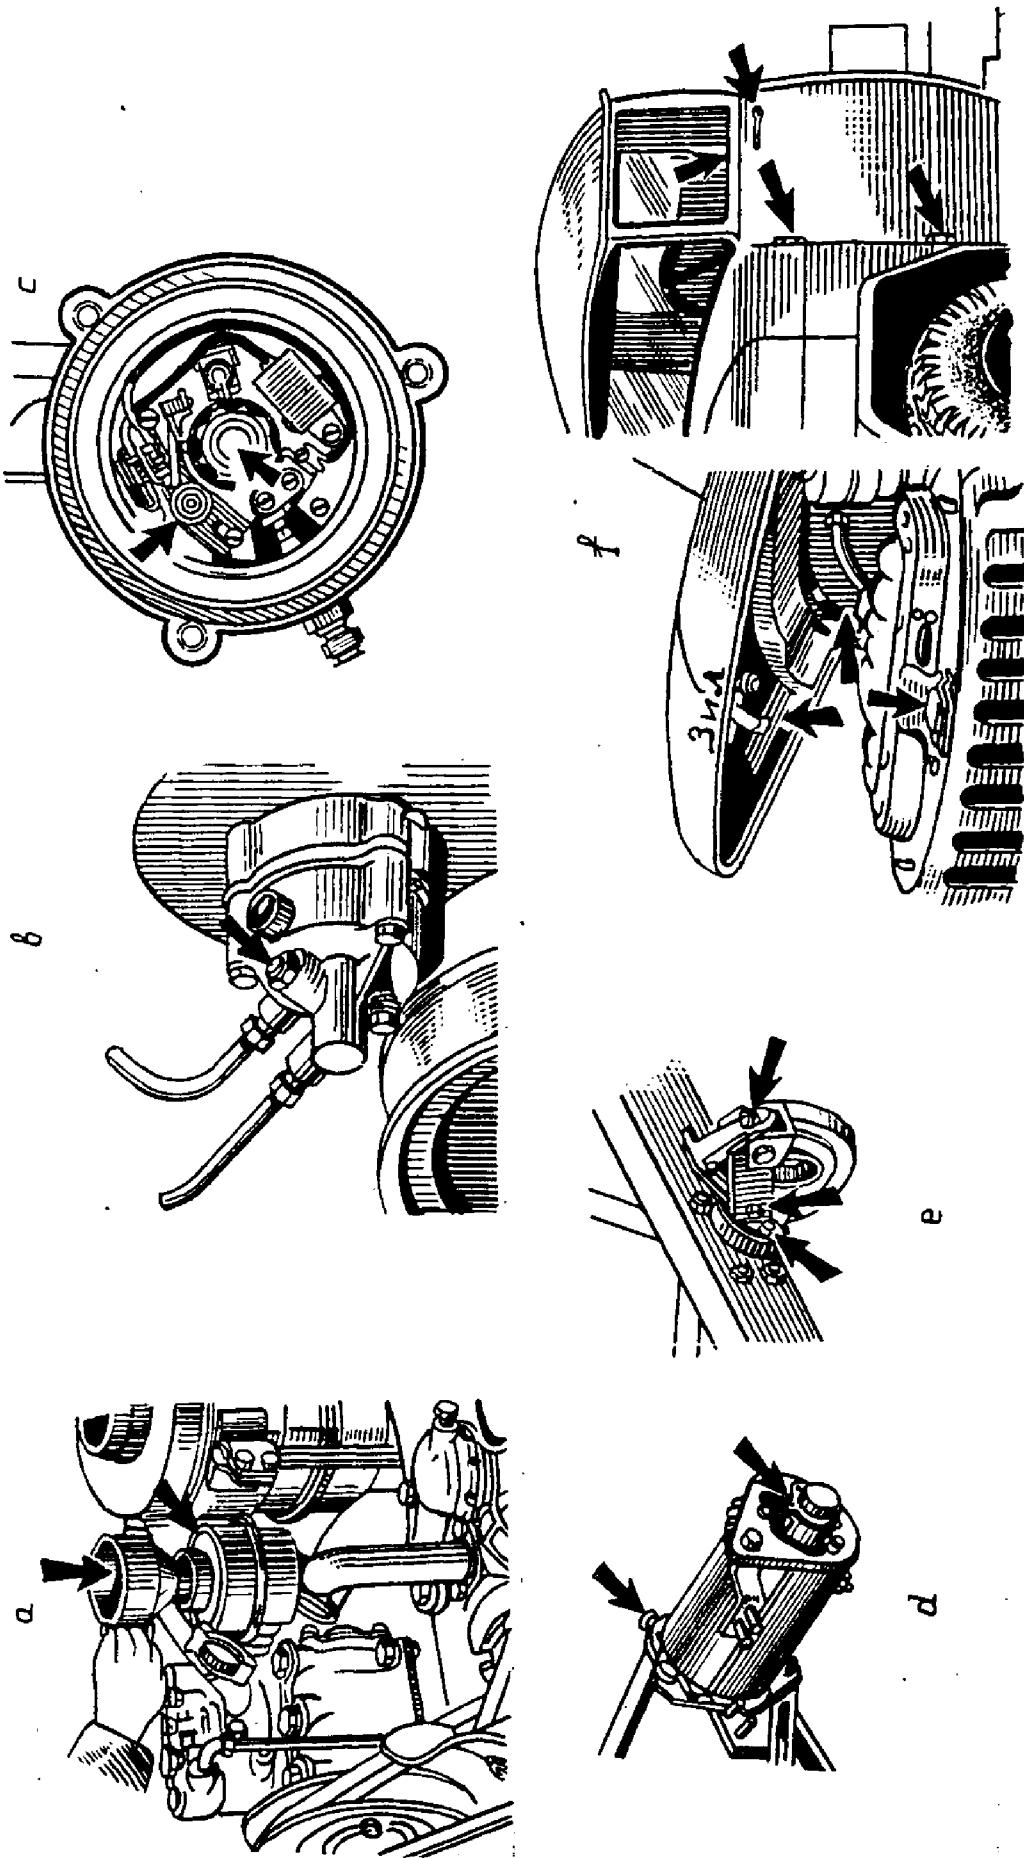

FIG.33. LUBRICATING POINTS FOR AC-8 OR AC-11-10 GREASE
41. Change the oil in the engine crankcase (Fig.33) (AC-8 oil, GOST 10541-63 or АСЭН-10 oil, МРТУ 12Н No.32-63). On the ЗММ-130 truck, used under heavy dust conditions, the oil is changed every PM No.1.